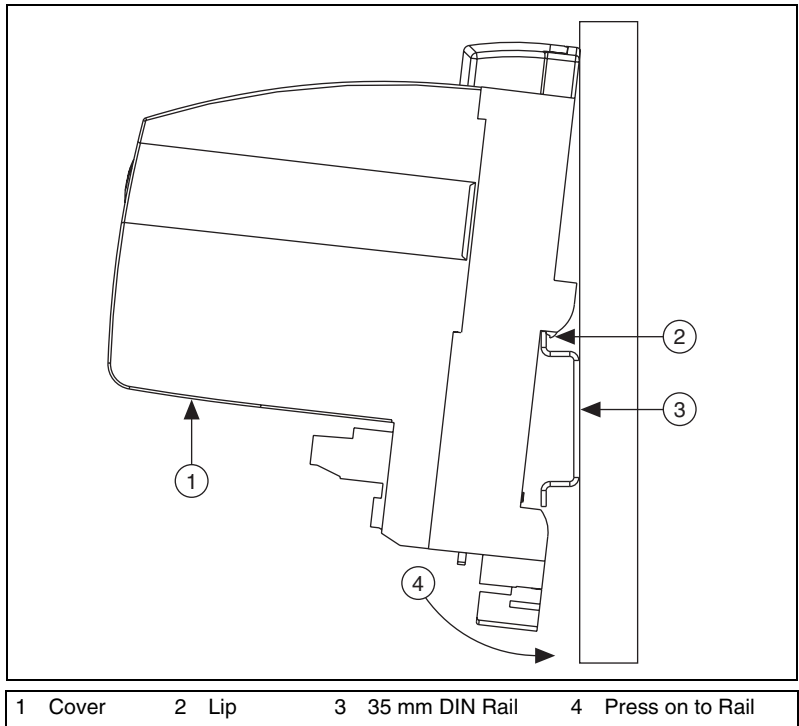

Figure 4. Mounting the FBUS-HSE/H1 LD on a DIN Rail
2. Hook the lip on the rear of the FBUS-HSE/H1 LD onto the top of a 35 mm DIN rail and press the FBUS-HSE/H1 LD down onto the DIN rail, as shown in Figure 4.